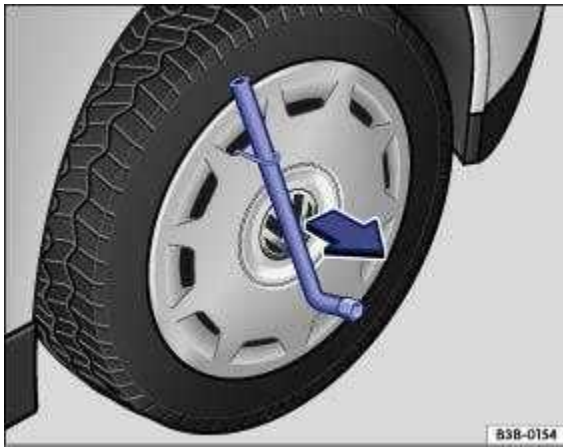

Fig. 201 Removing the wheel cover.
- ☐ Push the box spanner through the wire hook ⇒ Fig. 201 and remove the wheel cover in the direction of the arrow.